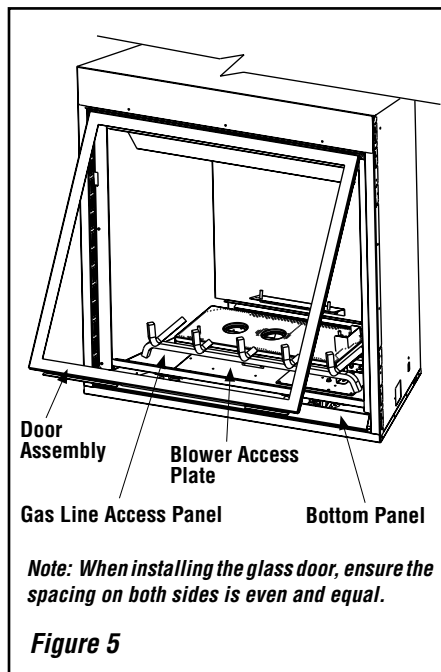

Figure 5
Removing Glass Enclosure Panels (see *Figure 5*)
1. To access the glass door securing latches, first open the lower control compartment door (*Figure 5*) by lifting and pulling the bottom panel forward.
5. Position the door in front of the firebox opening with the bottom of the door held away from the fireplace (*Figure 5*). Hook the top flange of the door frame over the top of the firebox frame.